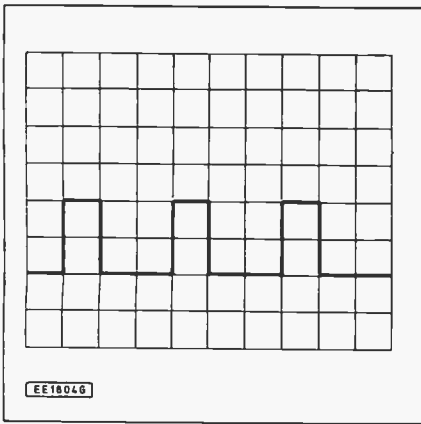

Fig. 5.9. Waveform of the pulse generator output. Timebase setting 10ms/cm.
8. To which settings would the pulse generator controls of Fig. 4.7 (last month) be adjusted in order to produce the output waveform in Fig. 5.9.